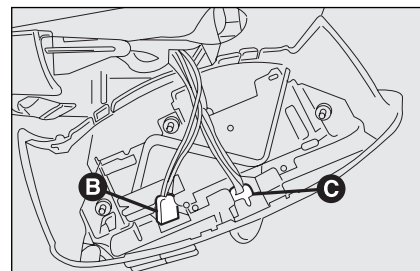

fig. 44
- disconnect electric connectors **B**-fig. 44 and **C**;